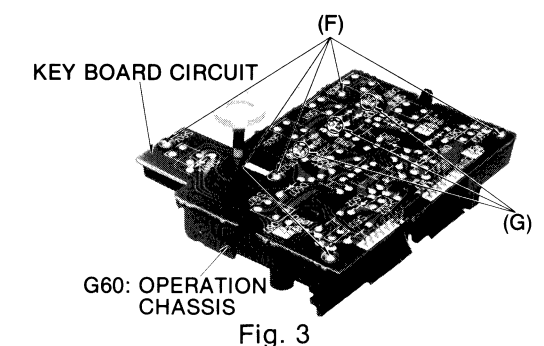

Fig. 3
To replace the parts on the keyboard circuit, first, remove the five screws (F), and then desolder six terminals (G) of three LED's. The Operation Chassis can then be removed from the Base Plate and the parts be replaced. (Refer to the Fig. 3).